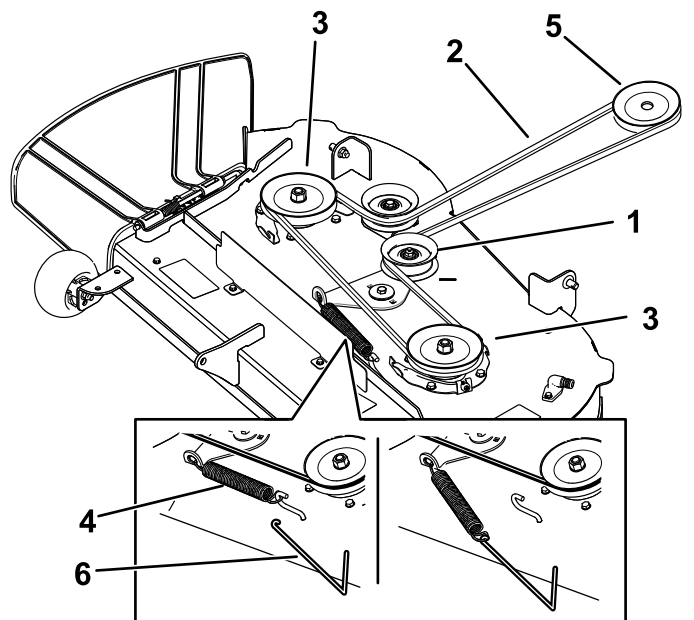

Figure 49
5. Using a spring-removal tool (Toro Part No. 92-5771), remove the idler spring from the deck hook to remove tension on the idler pulley, and roll the belt off the pulleys (Figure 49).
6. Route the new belt around the engine pulley and mower pulleys (Figure 49).
7. Using a spring-removal tool (Toro Part No. 92-5771), install the idler spring over the deck hook and place tension on the idler pulley and the mower belt (Figure 49).